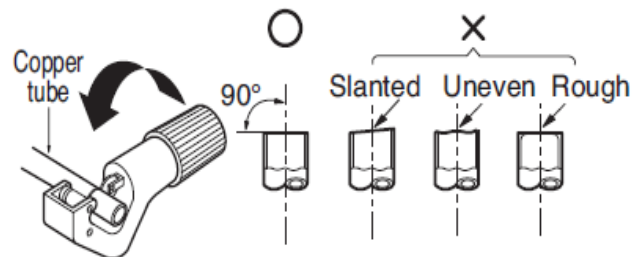

Figure 10: Cutting Pipes
- Use the accessory piping kit or use pipes purchased locally (Figure 10).